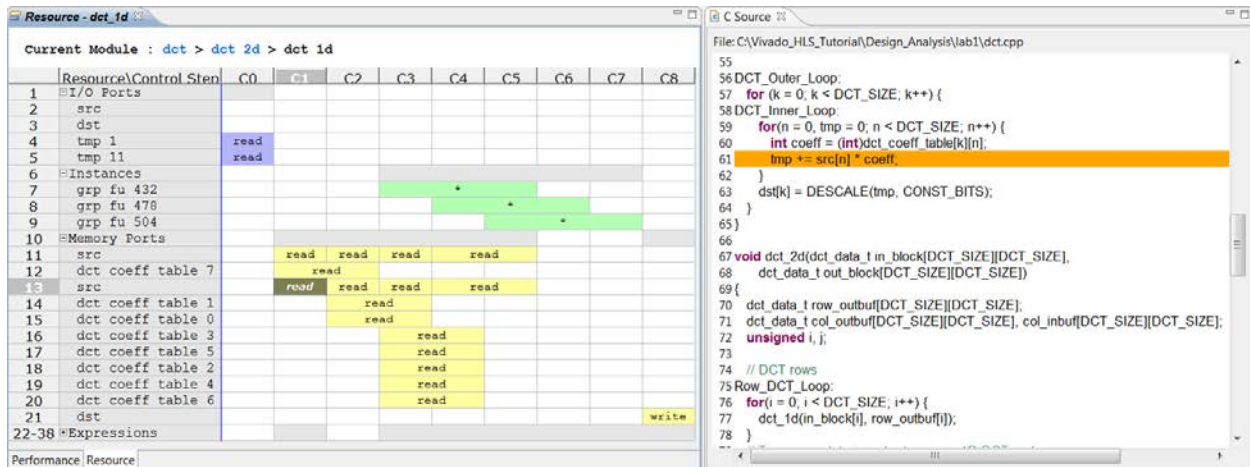

Figure 130: Memory resource src and Source Code
17. Right-click and select **Goto Source** to see the view shown in **Figure 130**.
Figure 130 shows this read on the `src` variable is from the read operation inside loop `DCT_Inner_Loop`. This loop was automatically unrolled when `DCT_Out_Loop` was pipelined and all operations in this loop can occur in parallel (if data dependencies allow).
The eight reads are being forced to occur over multiple cycles because the array `src` is implemented as a block RAM in the RTL and a block RAM can only allow two reads (maximum) in any one clock cycle. In Figure 130, the read operations take 2 clocks cycles: a cycle to generate the address for the block RAM and a cycle to read the data. Only the launch (address generation cycle) is shown because it overlaps with the operation in the next clock cycle.